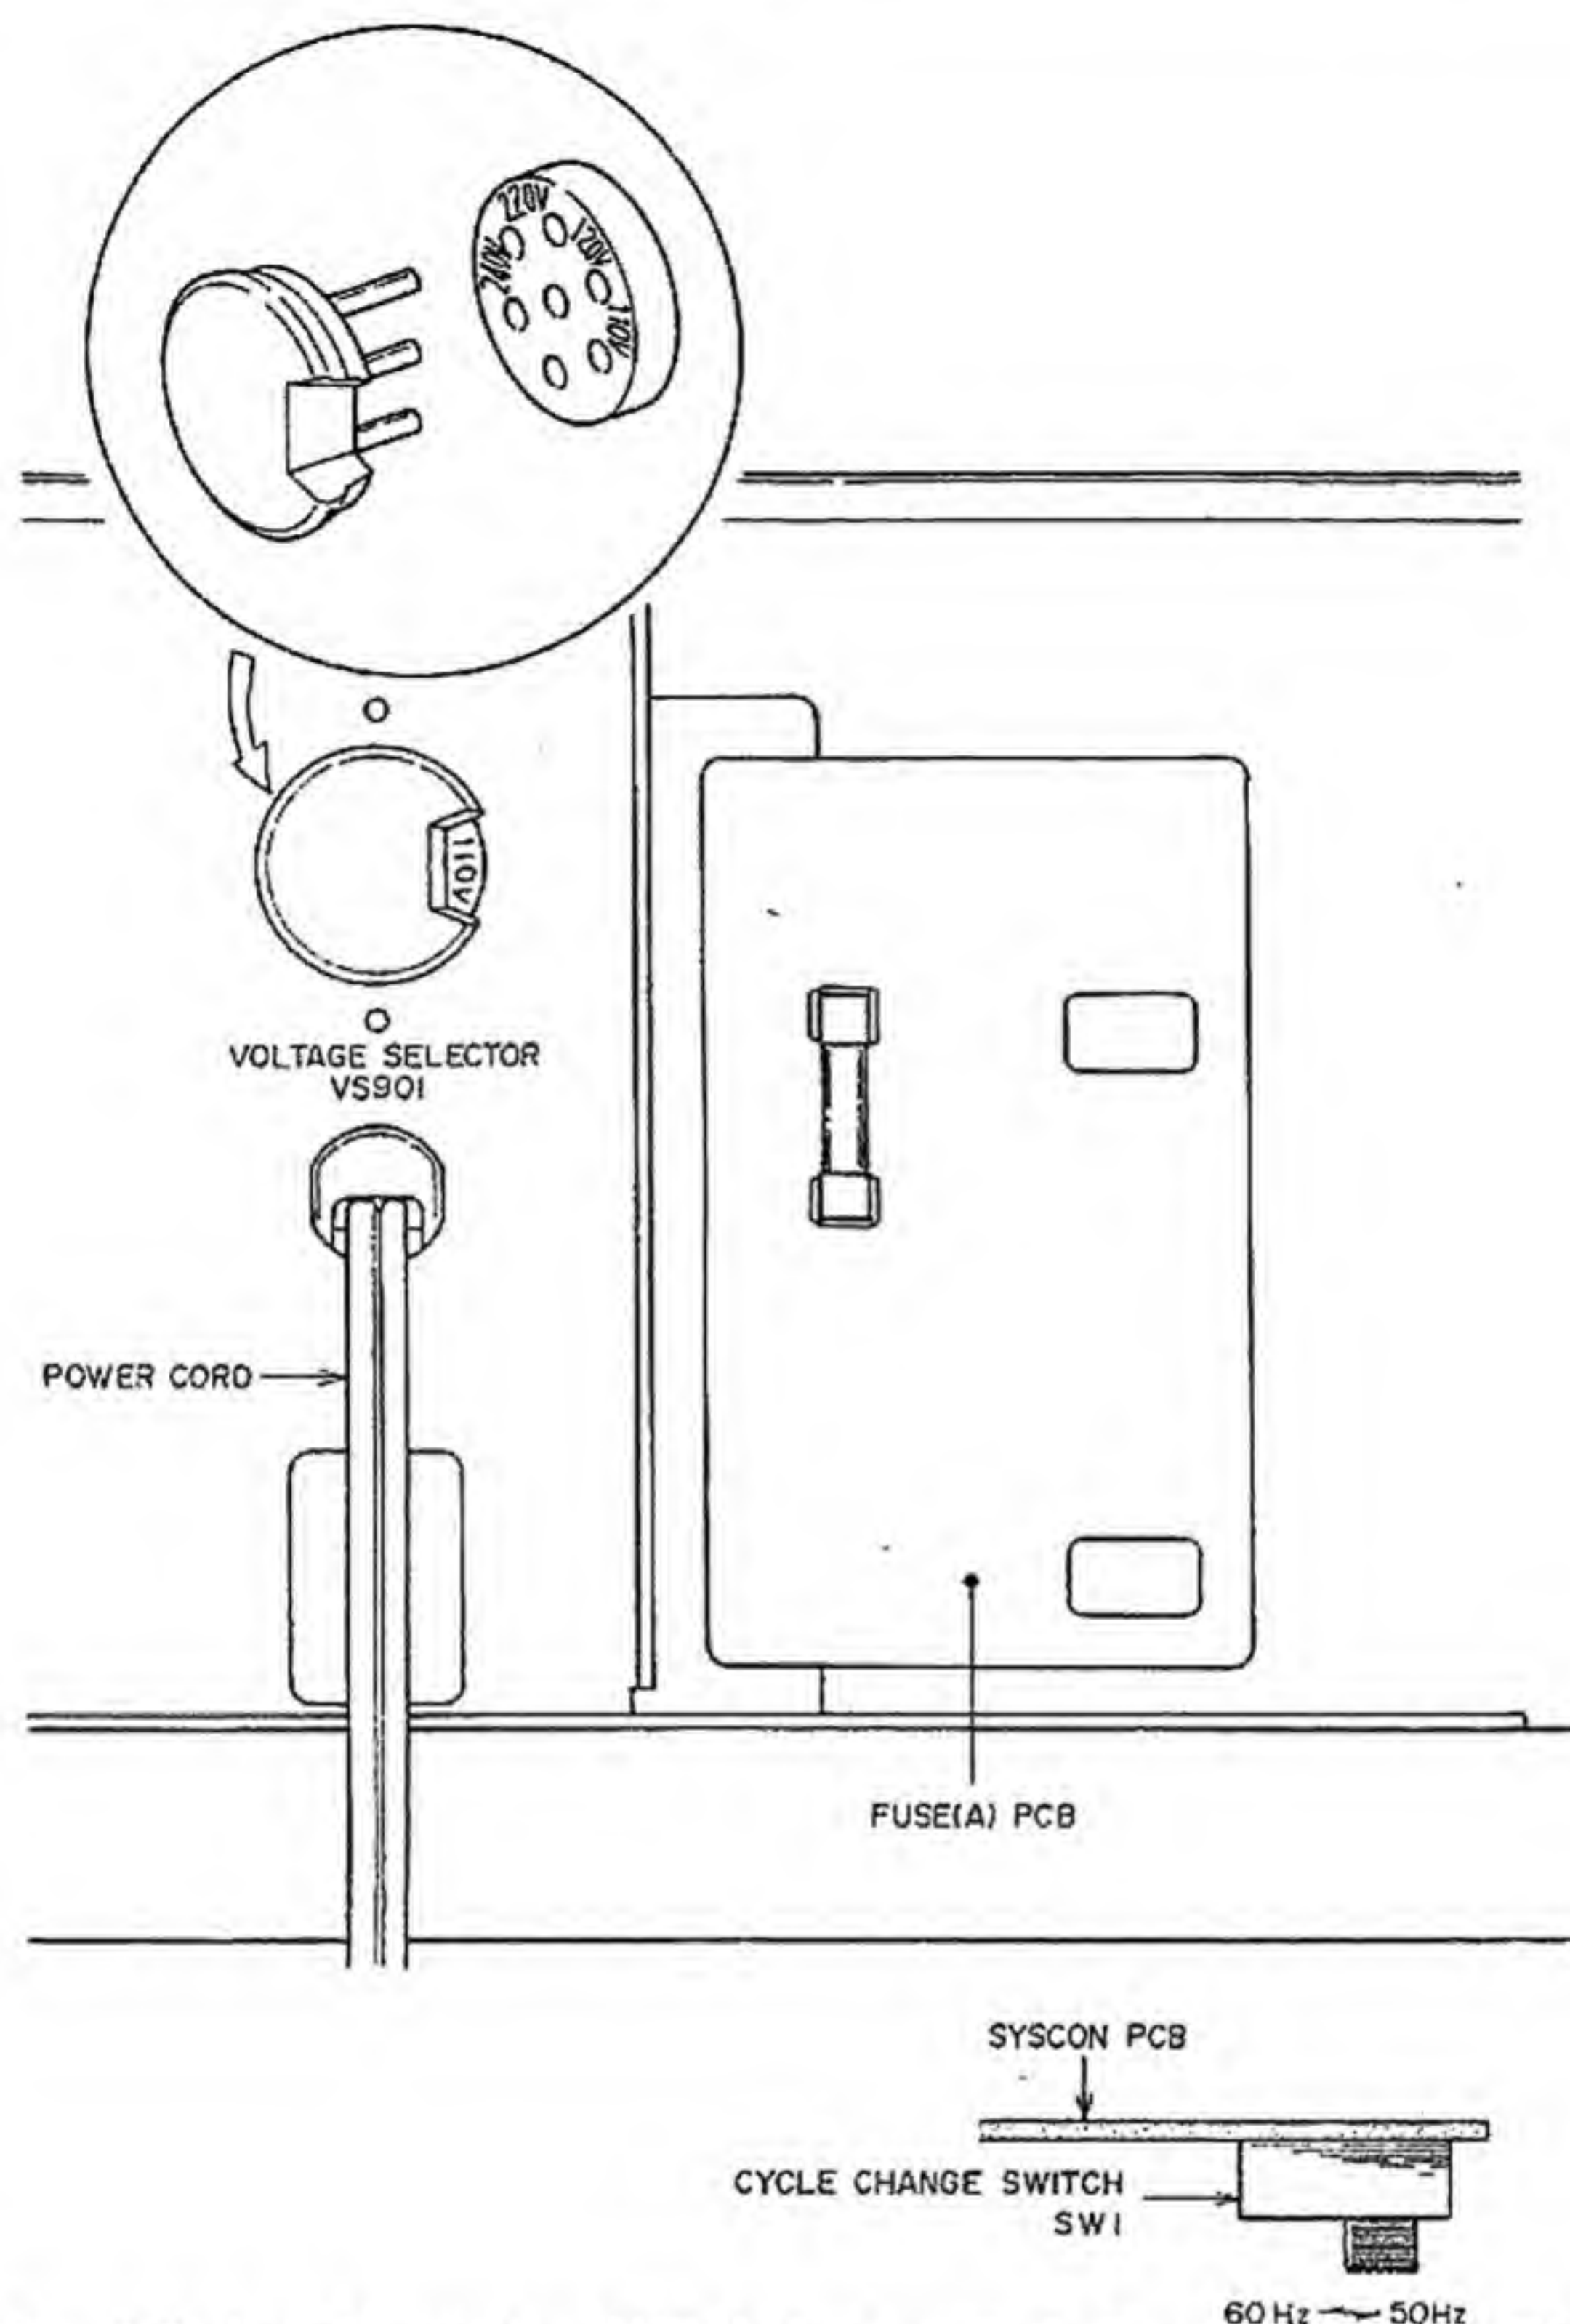

Fig. 4 Voltage Conversion (U/T Model) and Cycle Conversion (U/T, JPN Model)
1. VOLTAGE CONVERSION (Refer to Fig. 4)
2. CYCLE CONVERSION (Refer to Fig. 4)